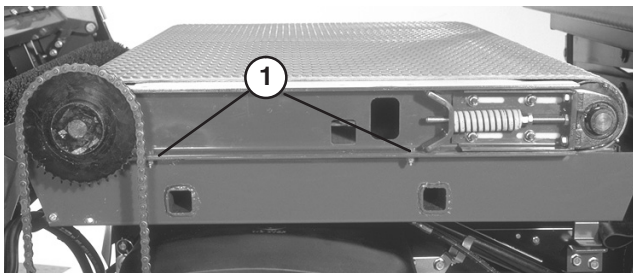

Figure 28
6. Loosen (2) capscrews, washers and nut, on right side of machine, securing slider bed to frame (Fig. 28). Make sure fasteners are loose enough to allow slider bed to be tipped.